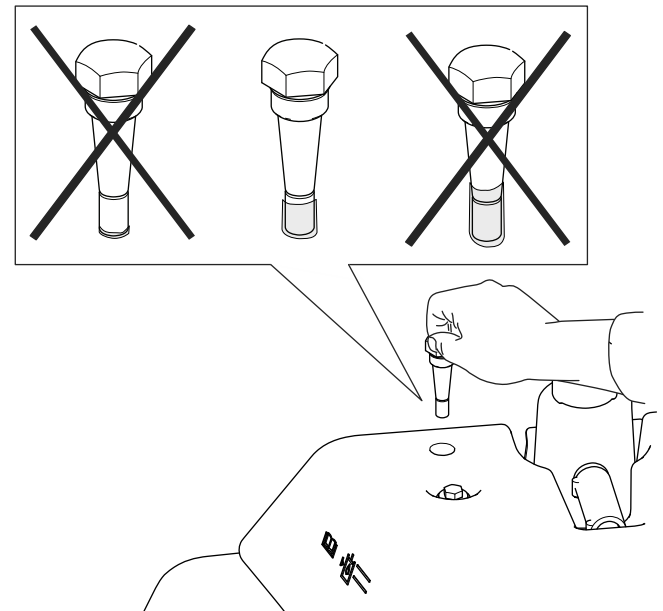

Figure 56
4. Remove the dipstick and check the fluid level. If it is between the marks on the dipstick, the level is sufficient. If the fluid level is not between the marks, adjust the fluid level accordingly (Figure 56).